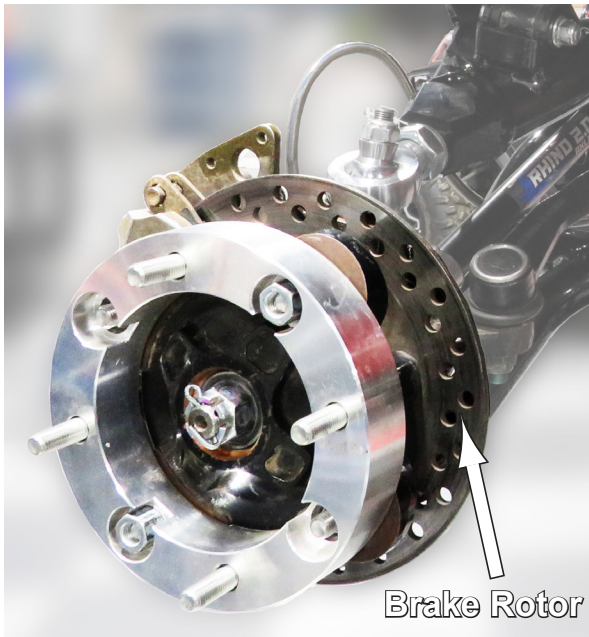

Fig.15
13. Reinstall stock Rotor and Caliper using factory hardware. See **Fig.15 & 16**.